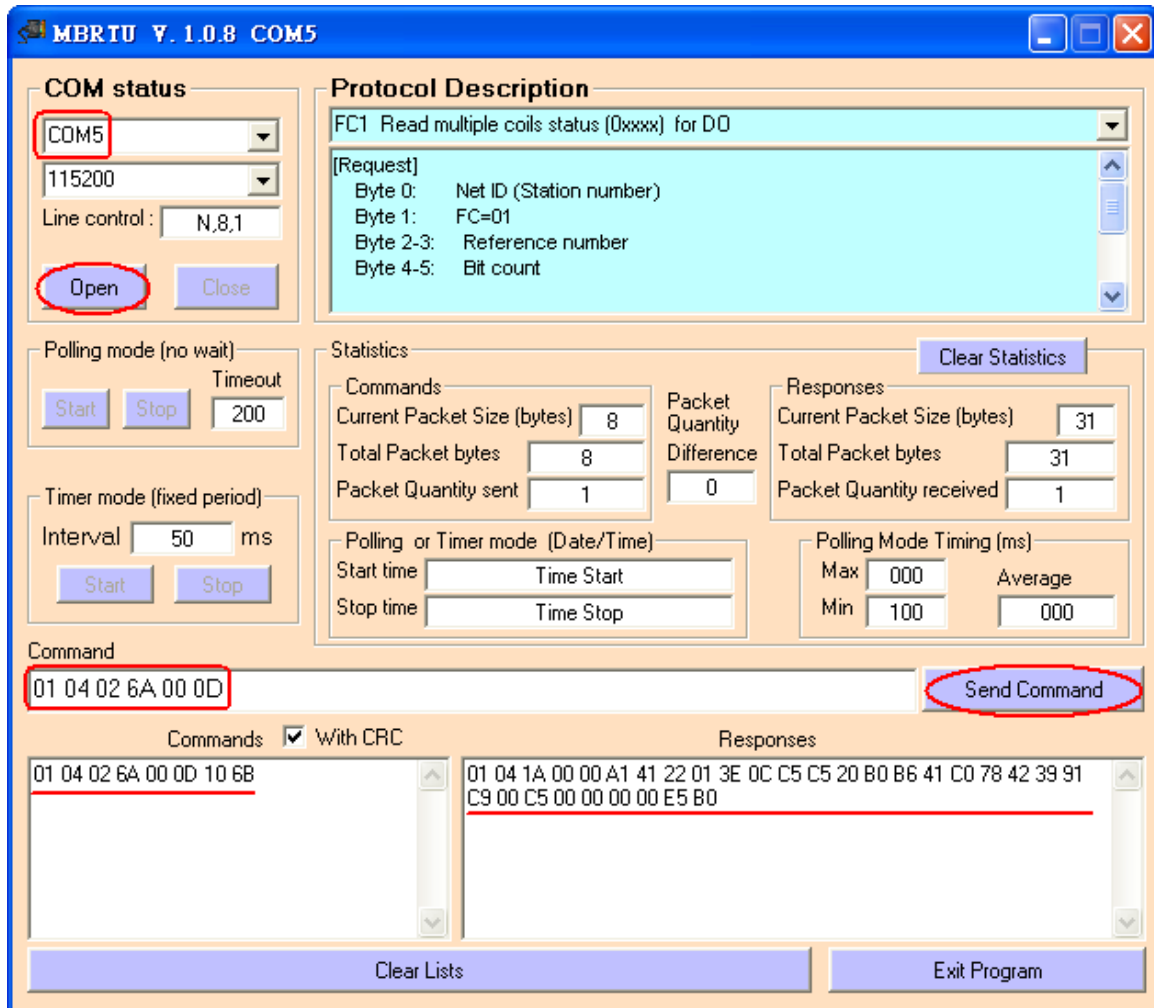

Figure 6-2 Receive HART Command 3 data
- (2) The below demo will use the free MB/RTU tool provided by ICP DAS to show HART command 1 data. (Download from [http://ftp.icpdas.com.tw/pub/cd/8000cd/napdos/modbus/modbus\\_utility/](http://ftp.icpdas.com.tw/pub/cd/8000cd/napdos/modbus/modbus_utility/))
- (3) Run “MB/RTU” tool. Set the com port settings the same with HART-710 (Baud Rate / Data Bits / Stop Bits / Parity) and then click “Open” button to connect to HRT-710 like Figure 6-2.
- (4) Input “01 04 02 6A 00 0D” in “Command” field and click “Send Command” button to send the Modbus command. The HART command 3 data will be received in “Responses” field => “01 04 1A 00 00 A1 41 22 01 3E 0C C5 C5 20 B0 B6 41 C0 78 42 39 91 C9 00 C5 00 00 00 00 E5 B0” like Figure 6-2.